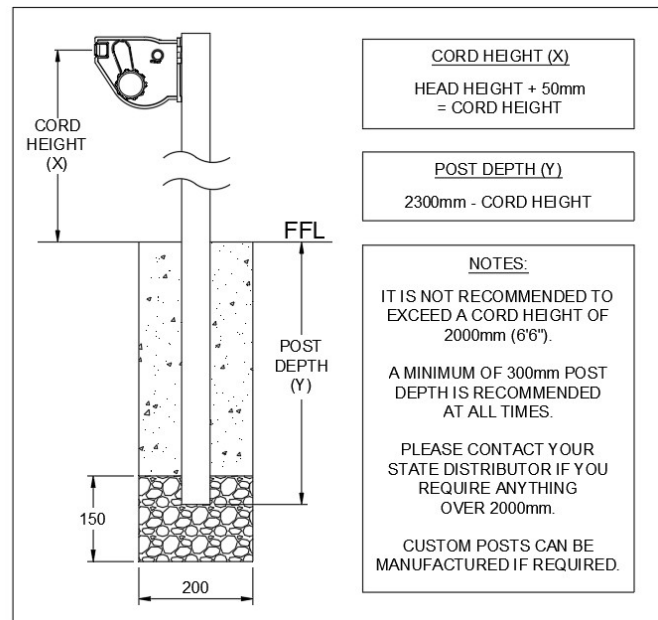

Fig. 8 Installation of Post.
- Install the Post as per the below image (Fig. 8).